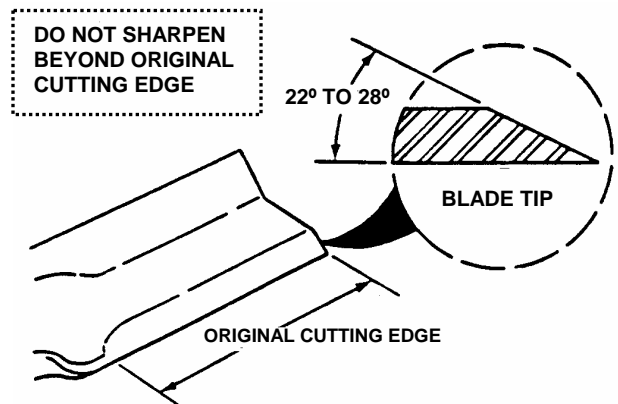

FIGURE 4.13
8. If blade is in good condition, sharpen at 22 to 28 degrees. DO NOT sharpen beyond existing cutting edge. See Figure 4.13.